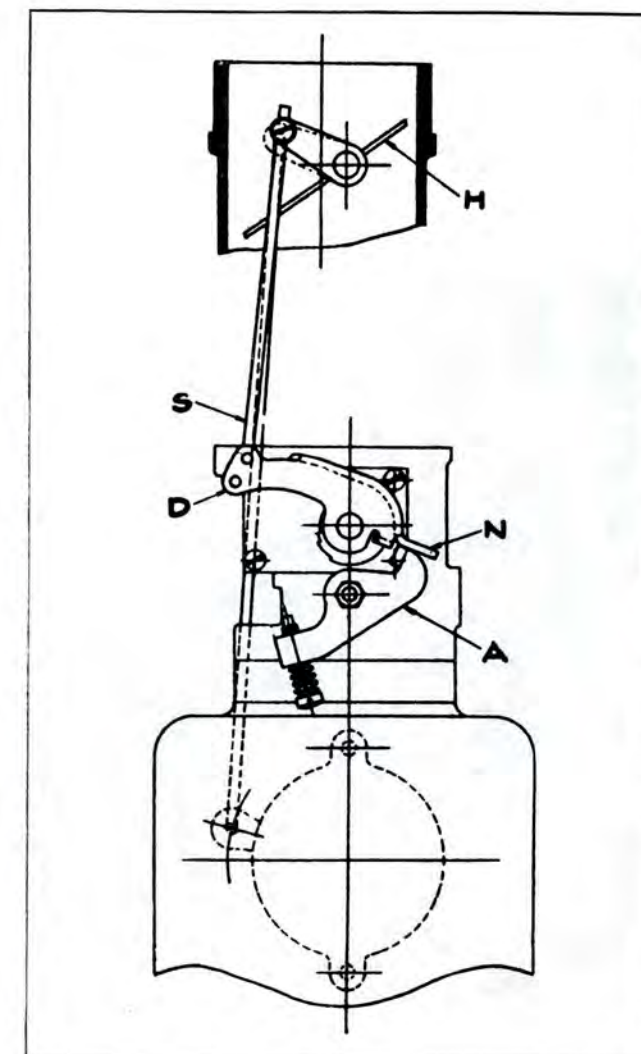

Fig. 4
Should for any reason, the engine become flooded, the choke valve can be manually opened by fully depressing the foot throttle pedal. This action rotates throttle lever, bringing it in contact with ear "N," Fig. 4, of the choke lever, which partially opens the choke valve. The engine then may be cranked for a few times to clean out the manifold.
1. Check throttle opening. Ear on lever should hit against body of carburetor when the accelerator pedal is pushed to the floor board. Fig. 4.